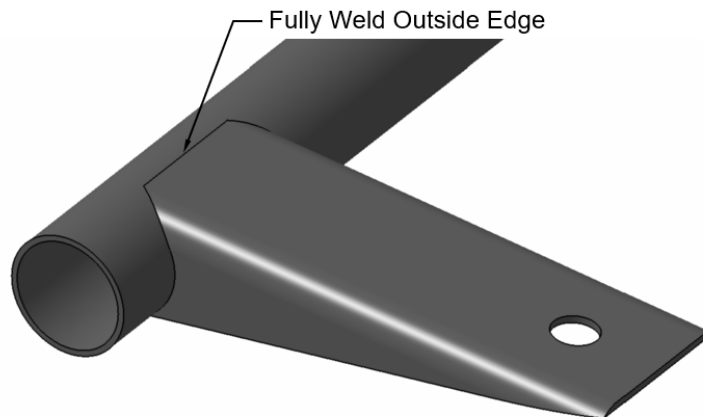

Figure B-48: Minimum weld length
- 5) Minimum Weld Length: At least the full outside face of the bracket must be welded to the supporting tube as shown in Figure B-48.